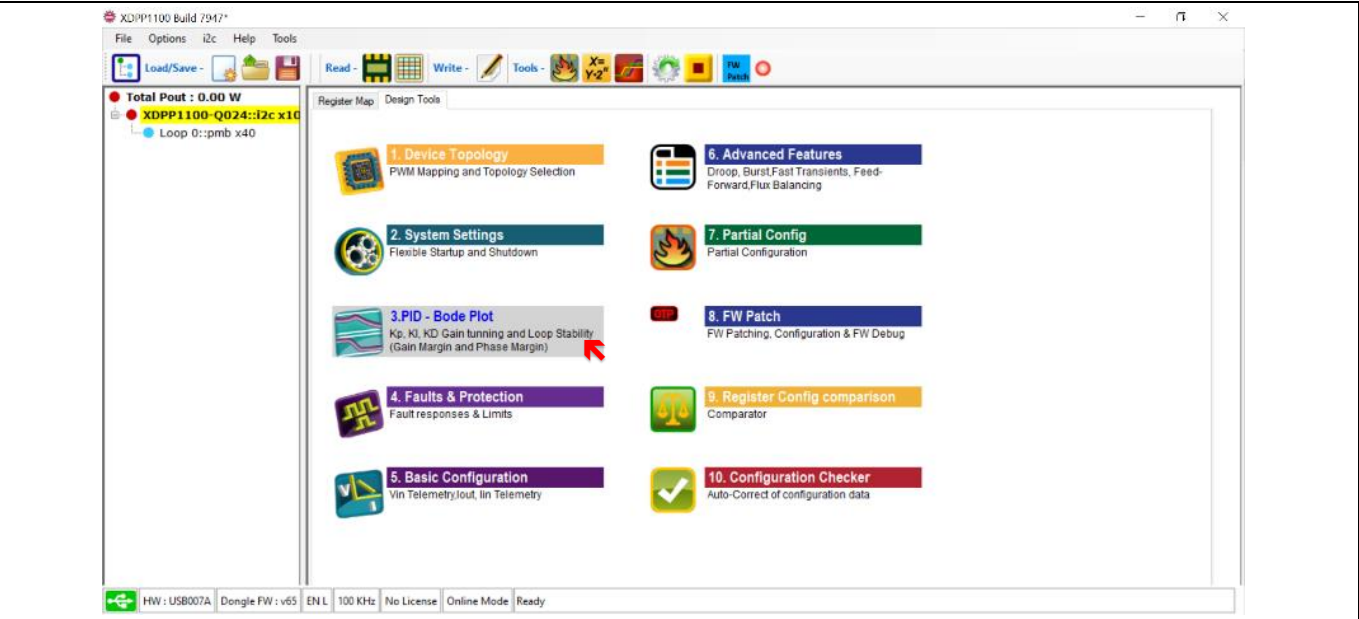

Figure 27 PID – bode plot (K_p , K_i , K_d Gain tuning and loop stability (gain margin and phase margin))
- Click the **XDPP1100-Q024::i2c x10** (highlighted in yellow in Figure 27).